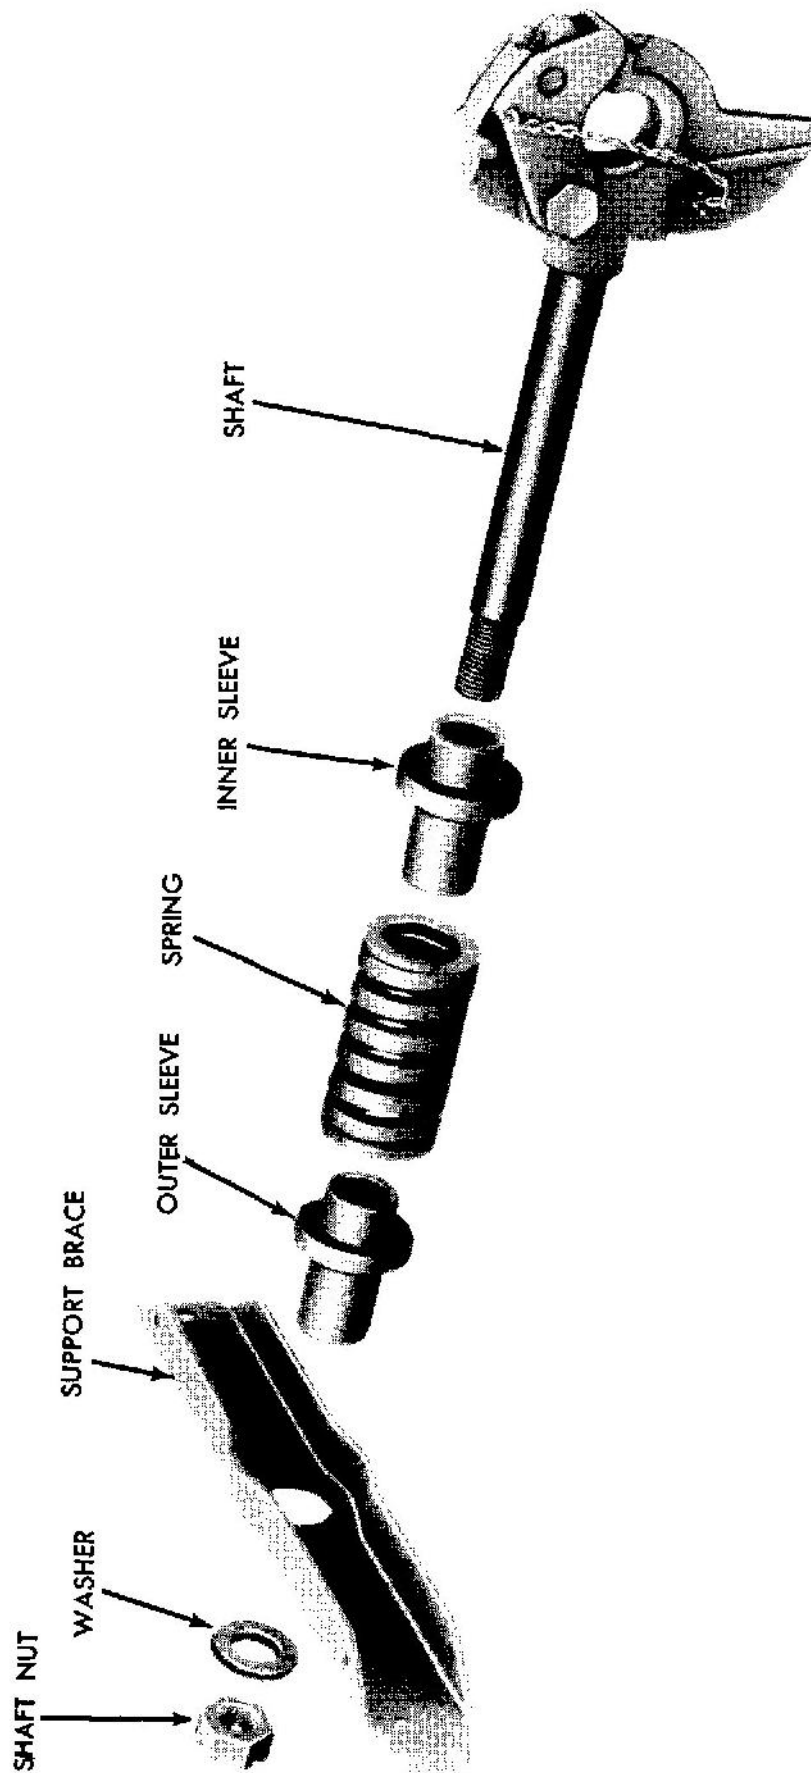

Figure 82 -- Pintle Hook -- Disassembled
b. **Installation.** Place the pintle shaft in position through the rear crossmember and slide the pintle spring rear sleeve, pintle spring and pintle spring front sleeve on the pintle shaft (fig. 82). Place the pintle support brace over the shaft against the sleeve shoulder. Install the flat washer and pintle shaft nut on the shaft, drawing up the nut to compress the spring so that the pintle support brace bolt holes can be lined up with the holes in the frame. Install the eight bolts, lock washers and nuts to secure the support brace to the frame. Back off the pintle shaft nut until there is only a slight tension on the pintle shaft spring. Install the cotter pin in the pintle shaft nut.